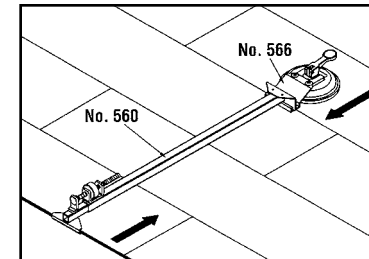

Figure 3 - Clamp anywhere with No. 566
3. Hook the Push & Pull Clamp onto the bracket; then, turn the adjusting knob to pull. (See figure 3.)